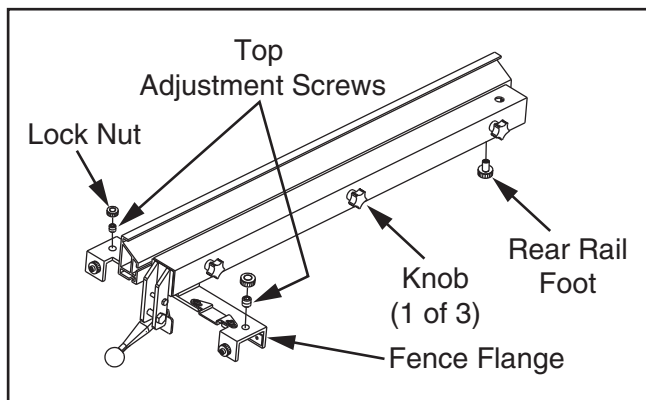

Figure 116. Fence components used to adjust fence height and squareness to table.
5. Install fence onto table, then loosen fence knobs (see **Figure 116**), pull fence up from center, and tighten each knob.
6. Loosen top lock nuts on fence flange and lock nut on rear rail foot, shown in **Figure 116**.
9. Loosen top lock nuts and adjust top screws (see **Figure 116**) to make fence face 90° to table, then tighten lock nuts.